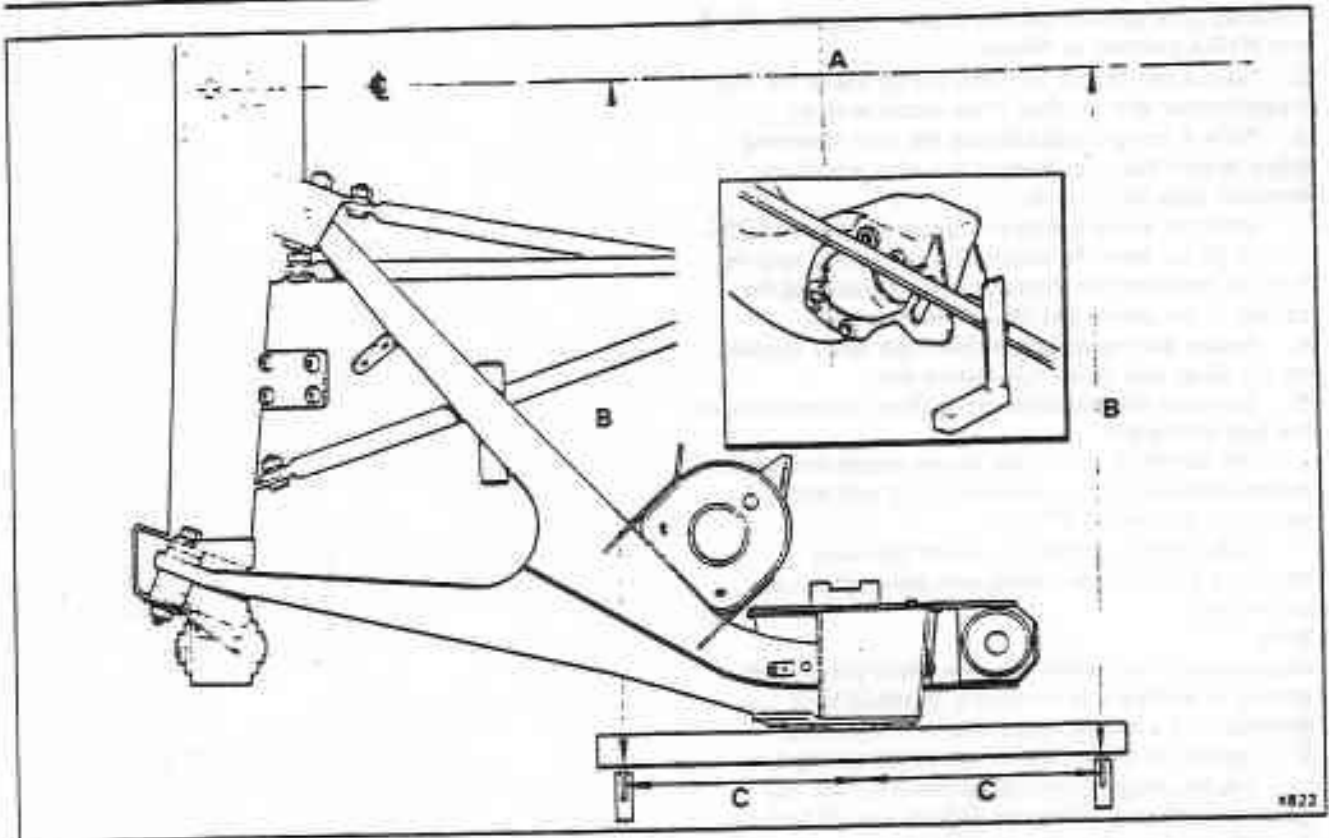

Fig. H10-4 Checking the toe-in setting
Toe-in - To check (see fig. H10-4)
3. Place a straight edge across the hub mounting tubes to give the equivalent of the road wheel rim diameter (see fig. H10-4).
With the aid of a precision square positioned 208 mm (8.20 in) from the centre line of the hub (see fig. H10-4), measure the distance from the base of the square to the centre line marked on the table.